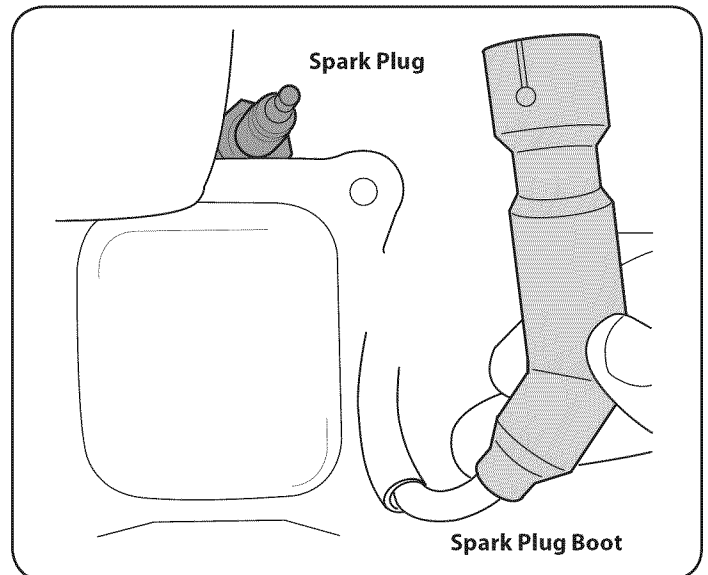

Figure 20
- Remove the spark plug boot and use a spark plug wrench to remove the plug. See Figure 20.